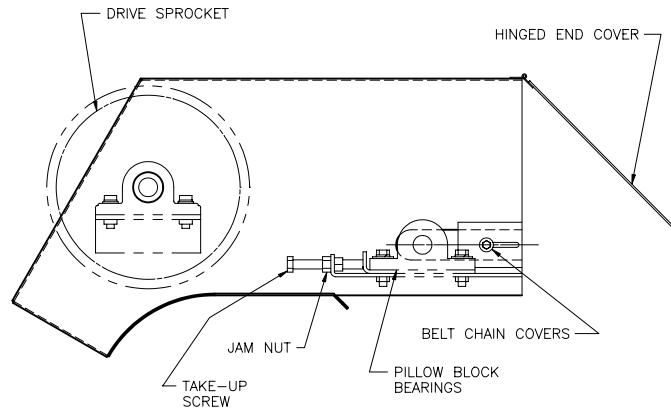

Figure 21: Take-Up assembly (Separator conveyor).
1. Remove belt sprocket covers (See Figure 21).